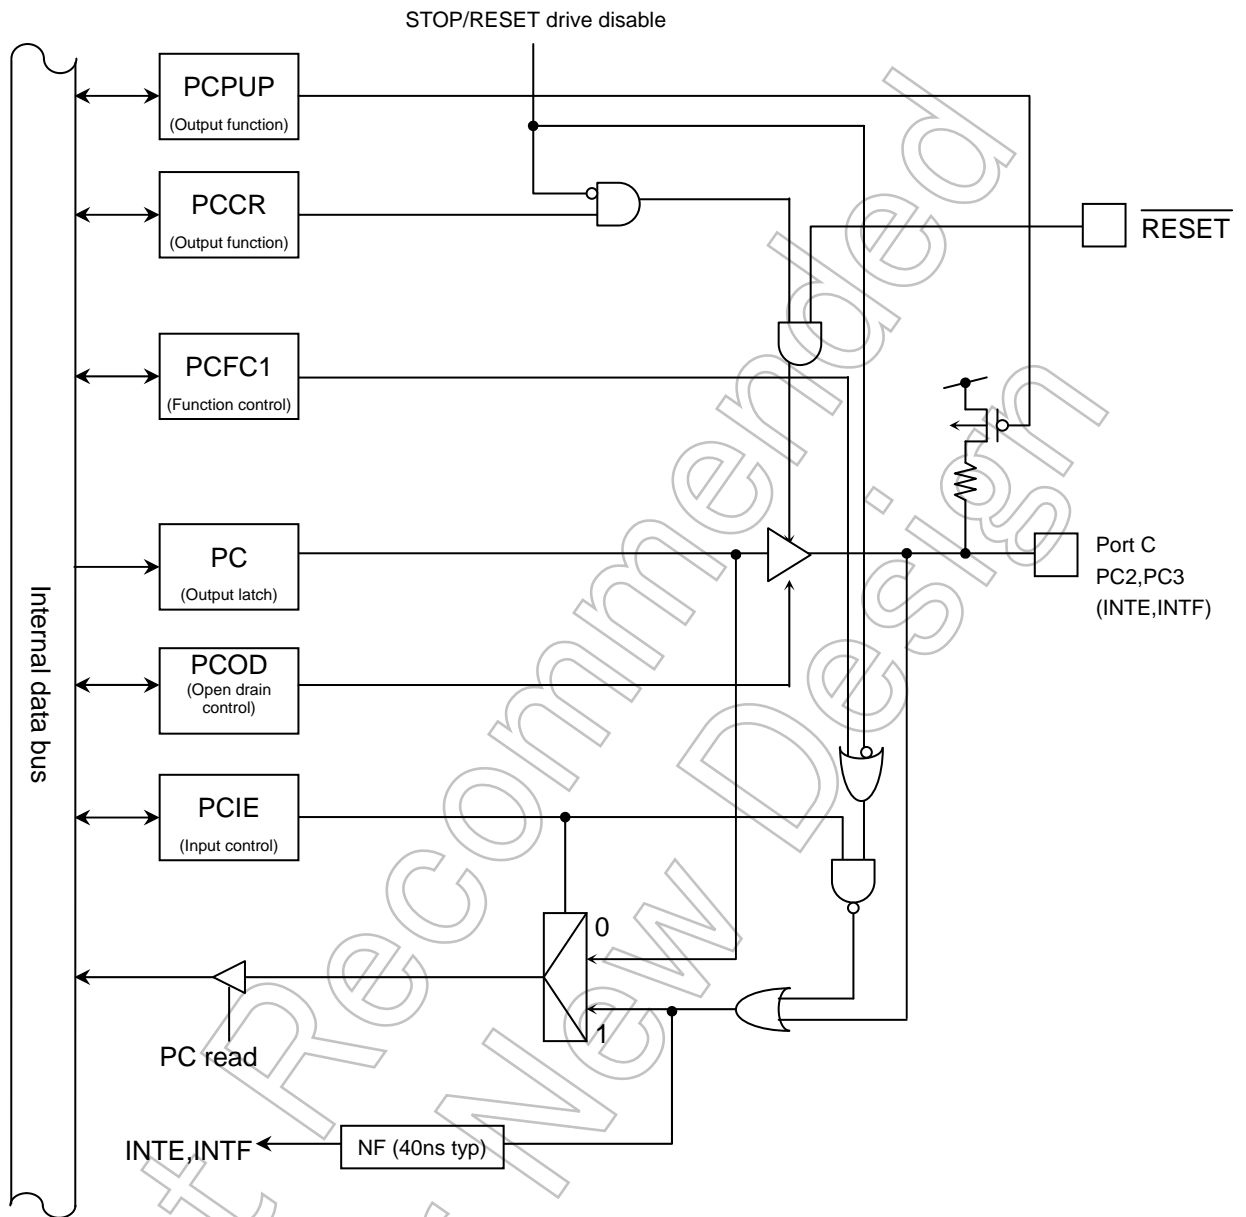

Fig. 7-40 Port C (PC2,PC3)
*Fig. 7-40 does not illustrate debug function.